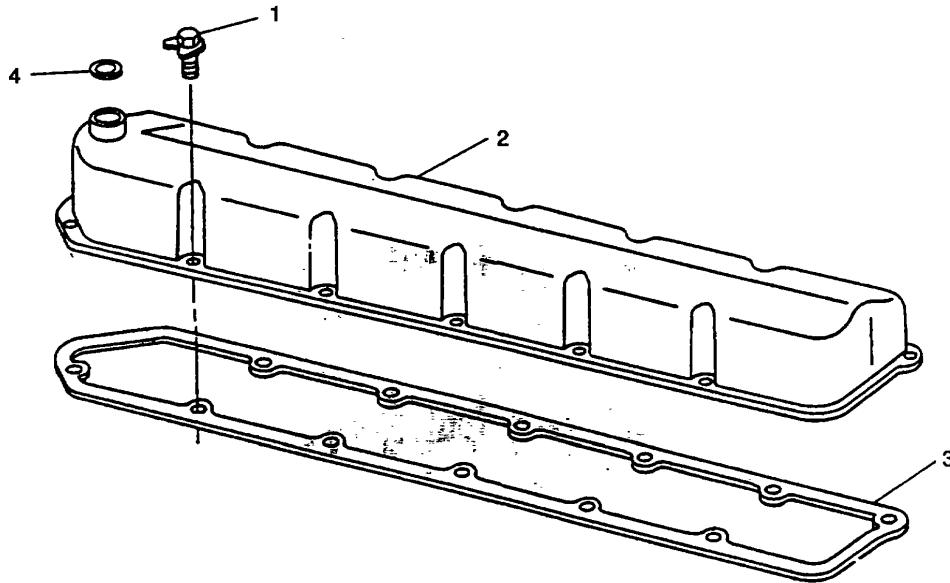

FIGURE 3-114. Valve Cover
- a. Remove twelve bolts (1, FIGURE 3-114) securing valve cover (2); remove valve cover (2) and gasket (3). Discard gasket (3).
- b. Remove preformed packing (4). Discard packing (4).
Install gasket (3, FIGURE 3-114 dry (no sealant).
- a. Position new gasket (3, FIGURE 3-114) and valve cover (2) on cylinder head and secure with twelve bolts (1). Tighten bolts to 7 ft-lbs (11 Nm).
- b. Install new preformed packing (4) in valve cover.